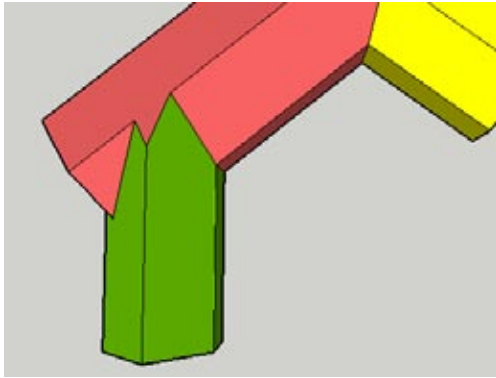

Figure 5-69
7. Trim edges to clean up the green roof (Figure 5-69).